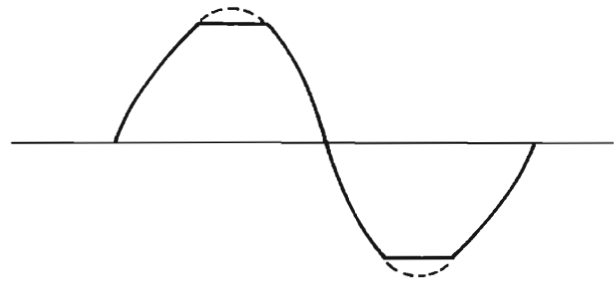

Fig. 2
- Gradually increase the output of the audio oscillator until the wave form on the oscilloscope (see Fig. 2) begins to be clipped. Adjust the left channel potentiometer VR-201 (100 KΩ) and the right channel VR-201 (100 KΩ) so that both upper and lower peaks of the wave forms begin to be clipped simultaneously at the same point of the curve.
- Gradually increase the output of audio oscillator, which is connected to AUX terminals, until the wave form on the Oscilloscope (see Fig. 2) begins to be clipped.